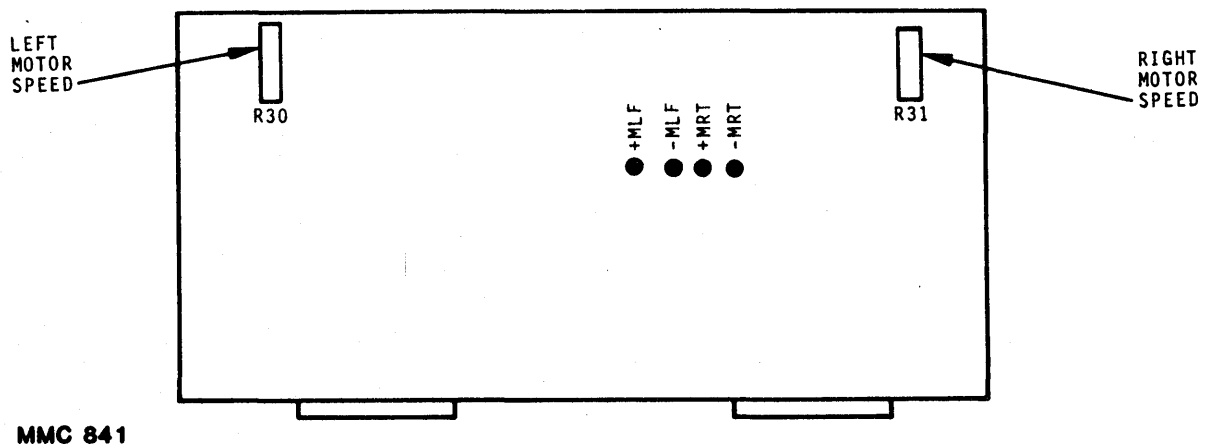

Figure 9-1. Servo PCB Test Points.
- f. Connect a voltmeter positive lead to test point (+MRT) at center of Servo PCB. Connect the negative lead to test point (-MRT). (See Figure 9-1).
- m. Connect a voltmeter positive lead to test point (+MLF) at center of servo PCB. Connect the negative lead to (-MLF). (See Figure 9-1).